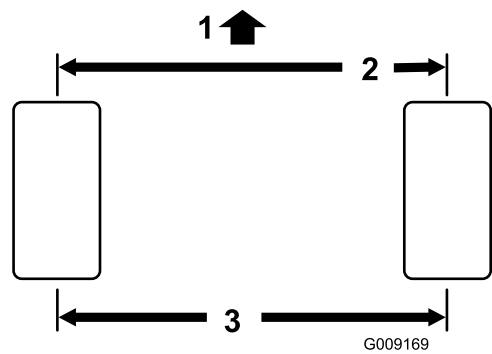

Figure 57
2. Measure the center-to-center distance (at axle height) at the front and rear of the steering tires (Figure 57).